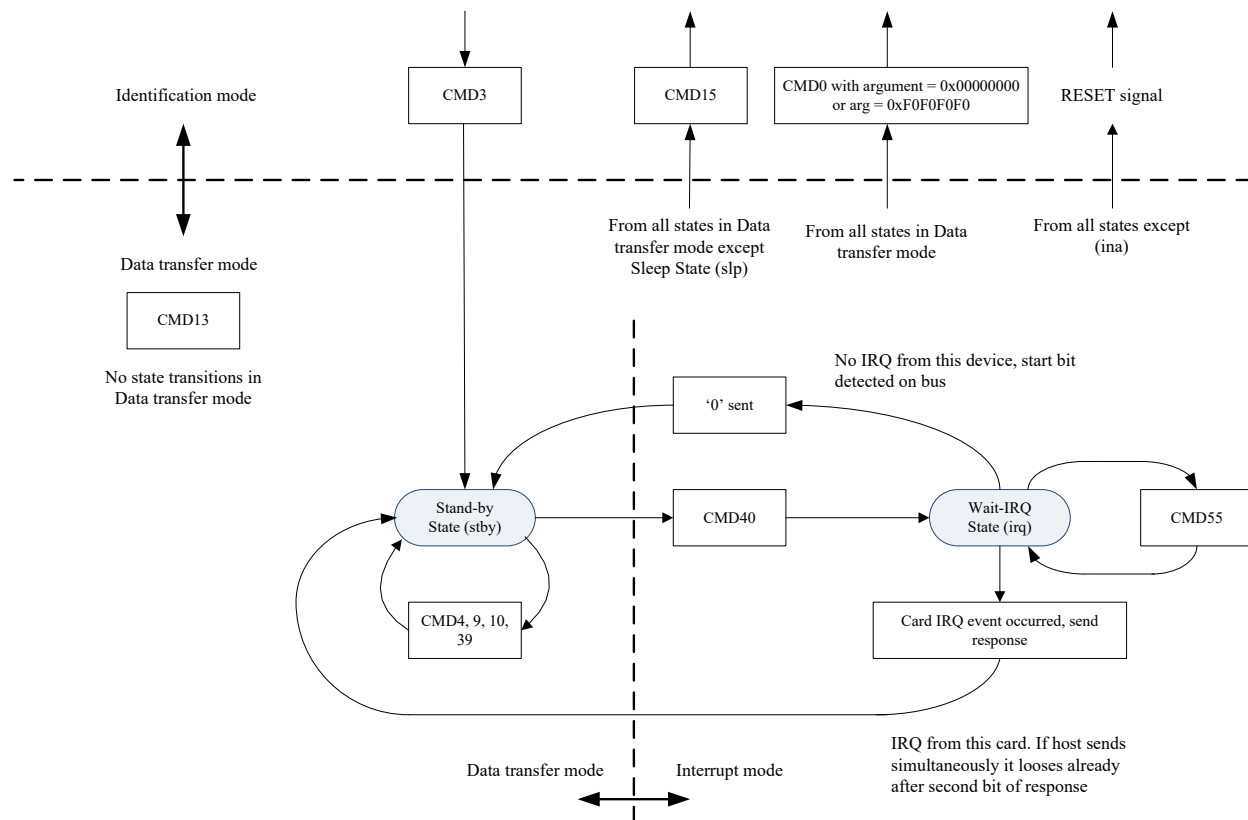

Figure 26 — eMMC state transition diagram, interrupt mode
- The system behavior during the interrupt mode is described in the state diagram in Figure 26.